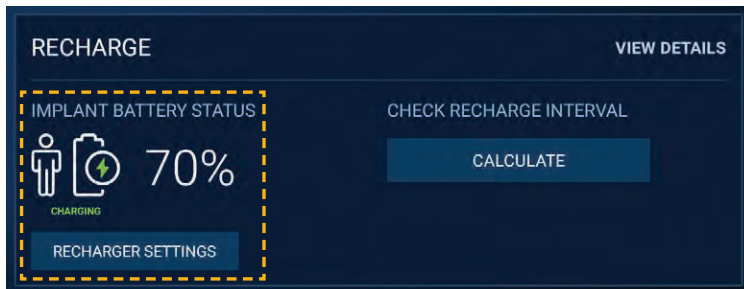

Figure 47. Recharger panel on dashboard
- From the Recharge panel on the dashboard, tap **RECHARGER SETTINGS** to open the Recharger Settings screen (Figure 47).